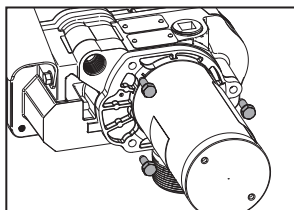

Figure 22
3. Remove the (3) ¼-20 x ¾ inch SEMS screws and motor from the pump housing (see Figure 22).